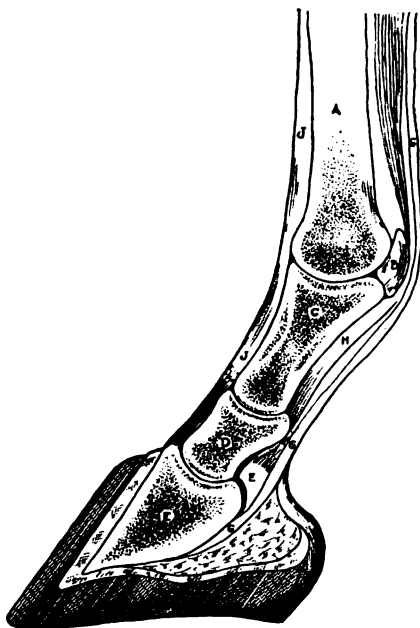

FIG. 1.—THE BONES AND TENDONS MENTIONED BY MR. MALOON
It is as follows; In Fig. 1, beginning at the knee we first have the cannon bone, A. Next comes the ankle joint with two sesamoid bones, B, at the rear. This joint connects the cannon bone, A, and the upper pastern bone, C, and brings us down to the next joint. This joint connects the upper (C) and lower pas-